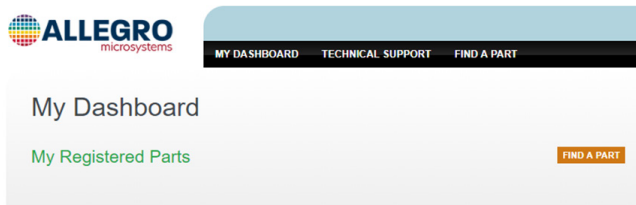

Figure 3: Find a Part Button Allows User to Register for Specific Devices
3. After registering and logging in to the software portal, the dashboard page is shown. Choose the find a part button highlighted in Figure 3.